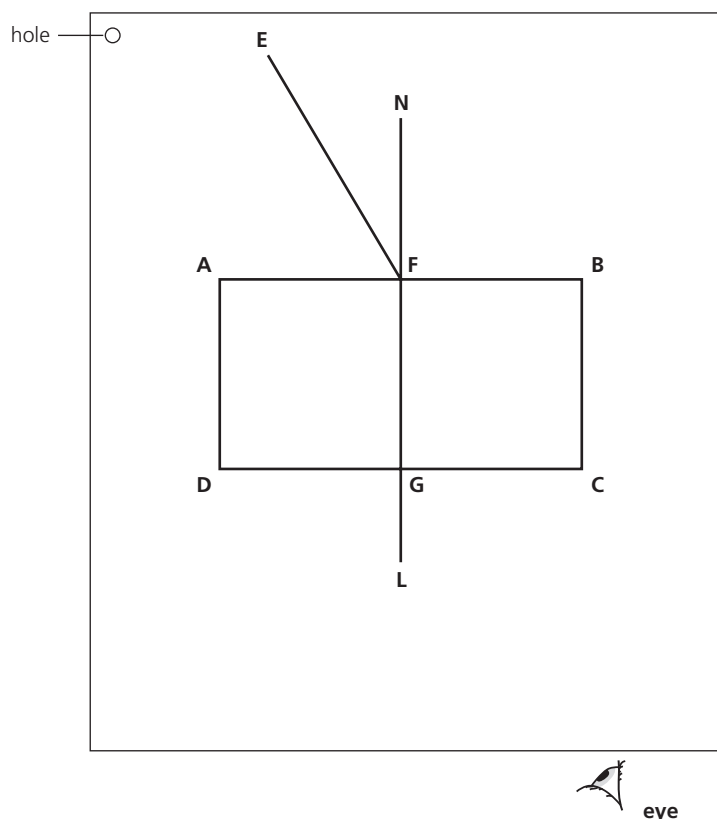

Figure 3
- a Carry out the following instructions on a sheet of plain A4 paper. Refer to Figure 3 for guidance.
- b Draw the line **EF** at an angle  $i = 30^\circ$  to the normal as shown in Figure 3.
- Replace the block and look from the position of the eye shown in Figure 3, to observe the images of  $P_1$  and  $P_2$  through side **CD** of the block. Adjust your line of sight until the images of  $P_1$  and  $P_2$  appear one behind the other.